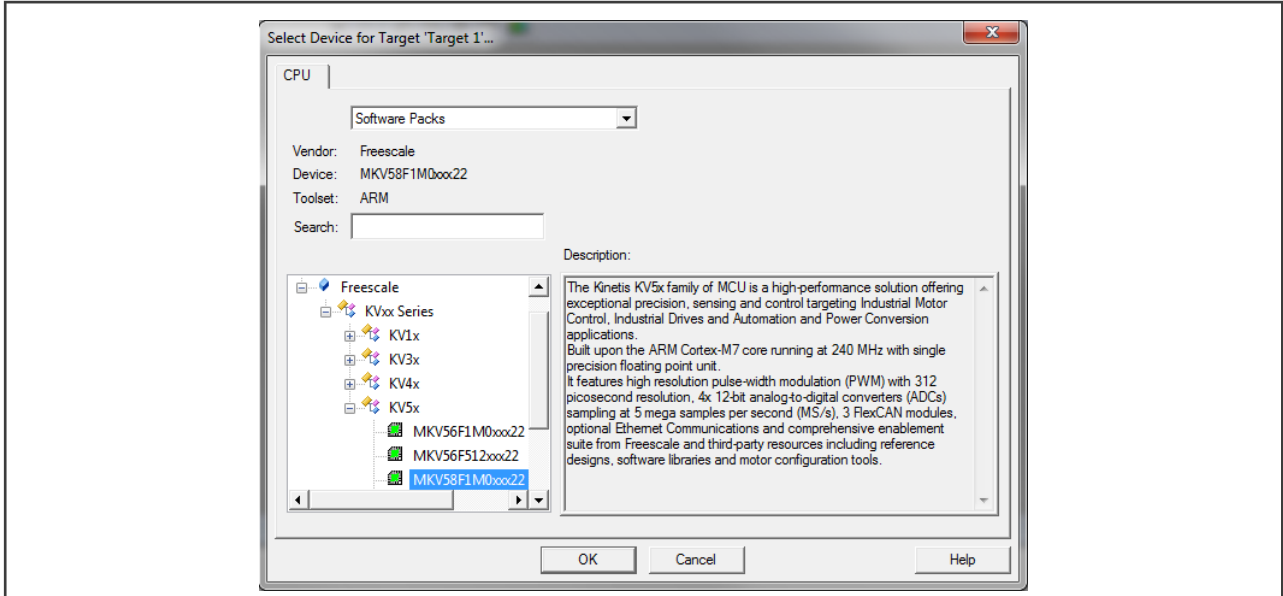

Figure 9. Select Device dialog
7. Click the MKV58F1M0xxx22 node, and then click OK. See Figure 9.